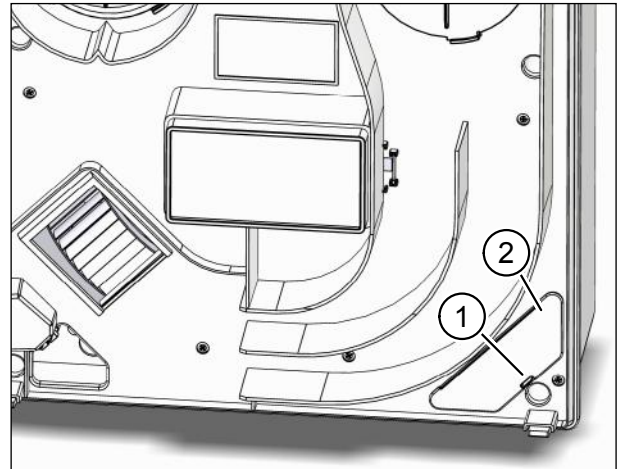

Fig. 25: Removing the network connection cover
- ▶ Press the latch (item 1 in Fig. 25) of the network connection cover (item 2 in Fig. 25) gently towards the middle of the unit, and lift up the network connection cover.